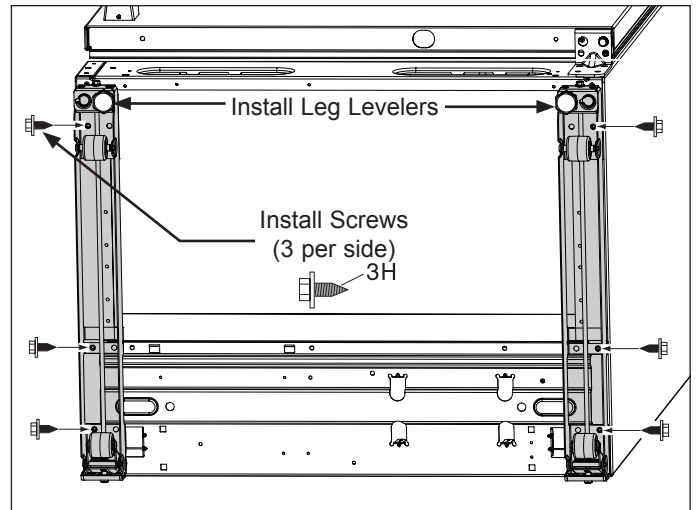

Figure 3
3. a. Attach the current leg leveler to leveling system. The leg leveler is a common part that will work on both bottom sides of the unit. (See Figure 3.)